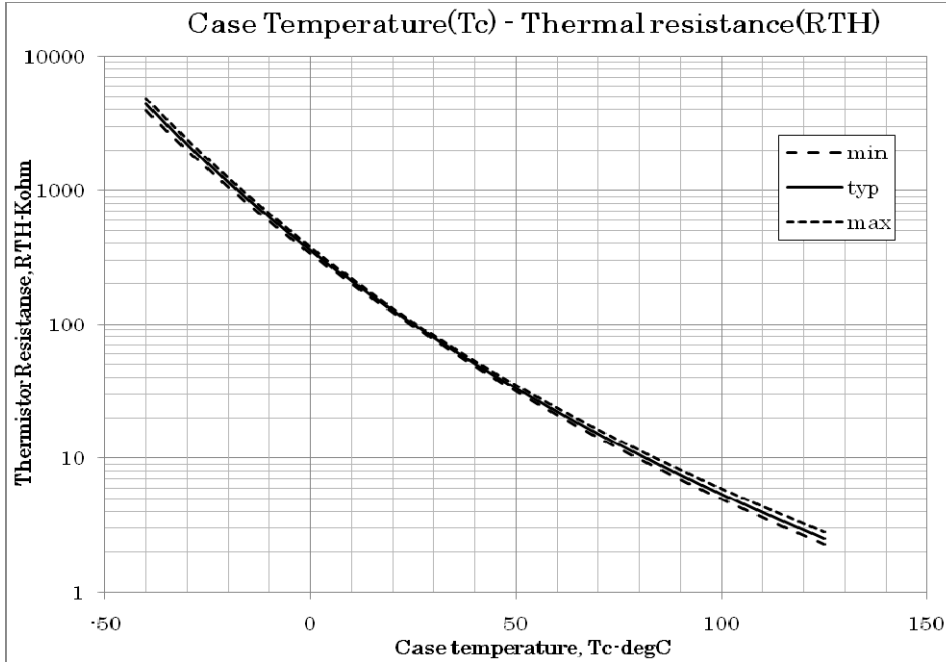
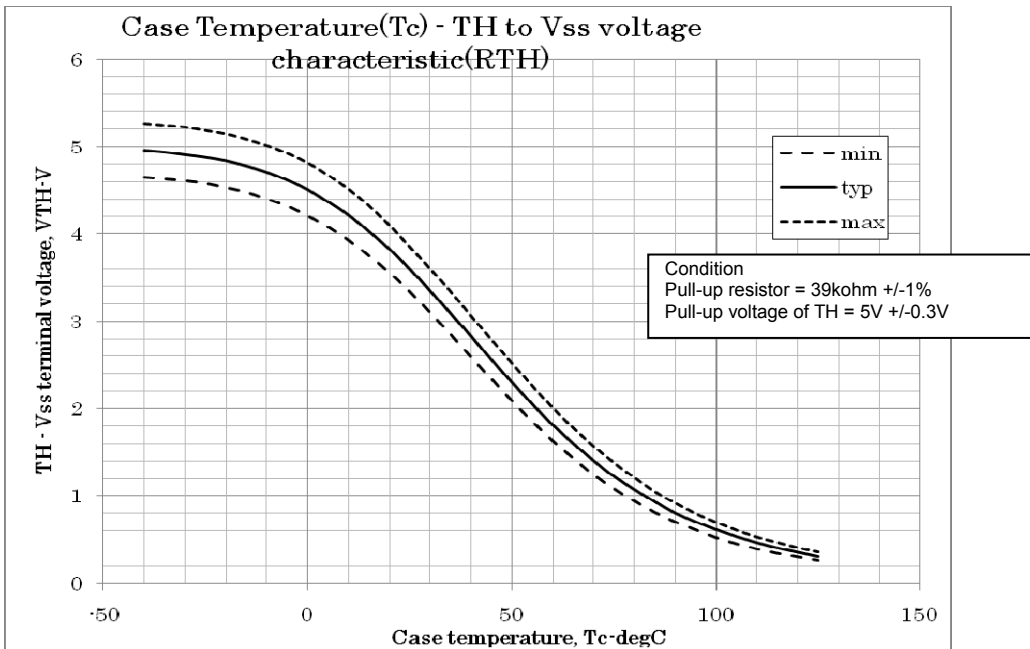

Fig.11 Variation of thermistor resistance with temperature
Fig.12 Variation of temperature sense voltage with thermistor temperature
4. Inside the IPM, a thermistor used as the temperature monitor for internal substrate is connected between “TH1” and “TH2” . Generally, one of terminals is connected to VSS, and the other is pulled up to external power supply with pull-up resistor (Rp) externally. The temperature monitor example application is as follows please refer the Fig.11 and Fig.12 below.